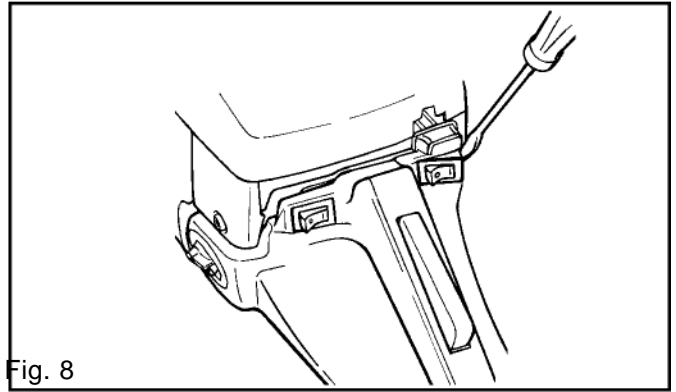

Fig. 8
2. Prise out the on/off switch with the help of a screwdriver. See fig. 8.
1. Remove the on/off switch and disconnect the leads. See fig. 8.